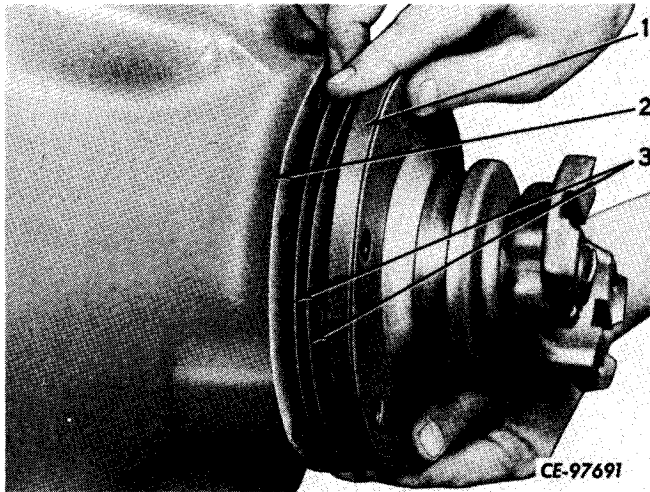

Figure 6-32
Remove cap screws and lock washers that secure pinion assembly (1, Fig. 6-32) to carrier assembly (2). Using a brass drift, drive out pinion. Remove and tag shims (3) for adjustment during assembly.